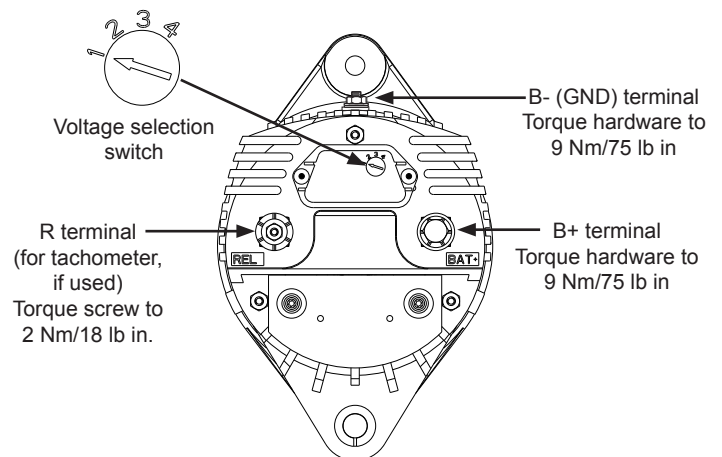

Figure 2: N1026 Alternator Wiring Connections
- a. Remove 2 screws and cap from rear of alternator to expose voltage selection switch. See Figure 2.
9. Connect battery B+ (positive) lead to B+ terminal on alternator. Secure with washer and nut included in parts package. Torque to 9 Nm/75 lb in. See Figure 2.
10. Connect battery ground lead to GND terminal on alternator. Secure with washer and nut included in parts package. Torque nut to 9 Nm/75 lb in. See Figure 2.
11. If required for vehicle tachometer, remove and discard white cap on R (AC output) terminal and connect tachometer wire lead to terminal. Torque to 2 Nm/18 lb in. See Figure 2.